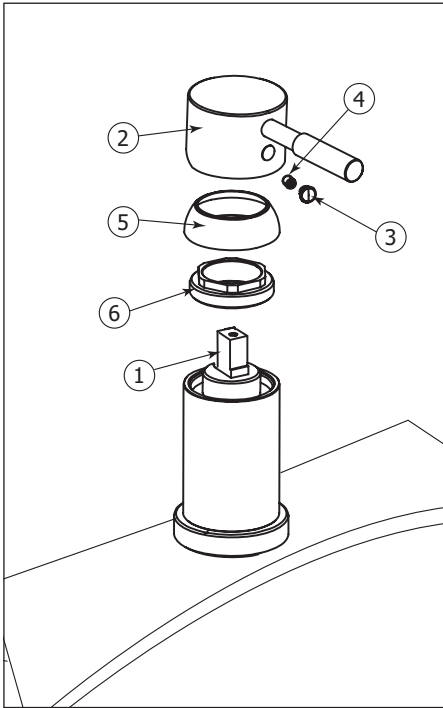

Fig.7
Start by shutting off the water supply lines and then turn on the water to drain the faucet. To replace the cartridge (1), pull out the handle (2) by removing the cap (3) and the set screw (4) first. Afterwards, remove the dome cap (5) and the retainer ring (6). Replace with new cartridge and reassemble by reversing steps. Fig.7.
Remplacer la cartouche par la nouvelle, puis inverser les étapes pour le réassemblage. Fig.7.